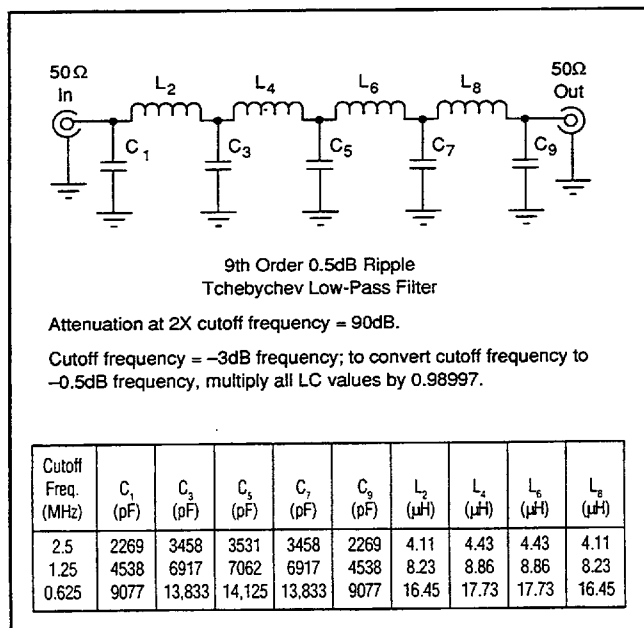

FIGURE 4. Ninth-Order Harmonic Filter.
3. Low-pass filtering (or bandpass filtering) of test signal generators is absolutely necessary for THD and IMD tests. An easily built LC low-pass filter (Figure 4) will eliminate harmonics from the test signal generator. Care must be taken not to saturate the filter. Saturation of these filters may cause odd order harmonics.